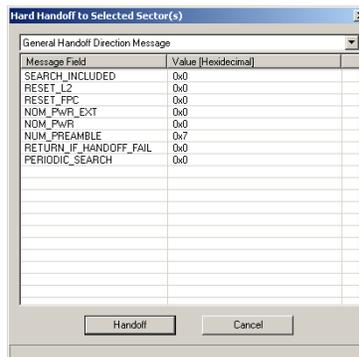

Figure 5-1: Handoff Direction Message Selection and Configuration
8. Select the BTS icon for the candidate sector, and then select **Test>Add Sector(s) to Soft Handoff** from the menu. This opens the window shown in Figure 5-1, which allows you to select the type of Handoff Direction Message used.
13. Remove this sector from soft handoff by highlighting its BTS icon, then selecting **Test>Remove Sector(s) from Soft Handoff** from the menu. AirAccess opens a window, as shown in Figure 5-1, allowing you to select the type of Handoff Direction Message used. Select and configure the handoff message, and then click the **Handoff** button to send the message.